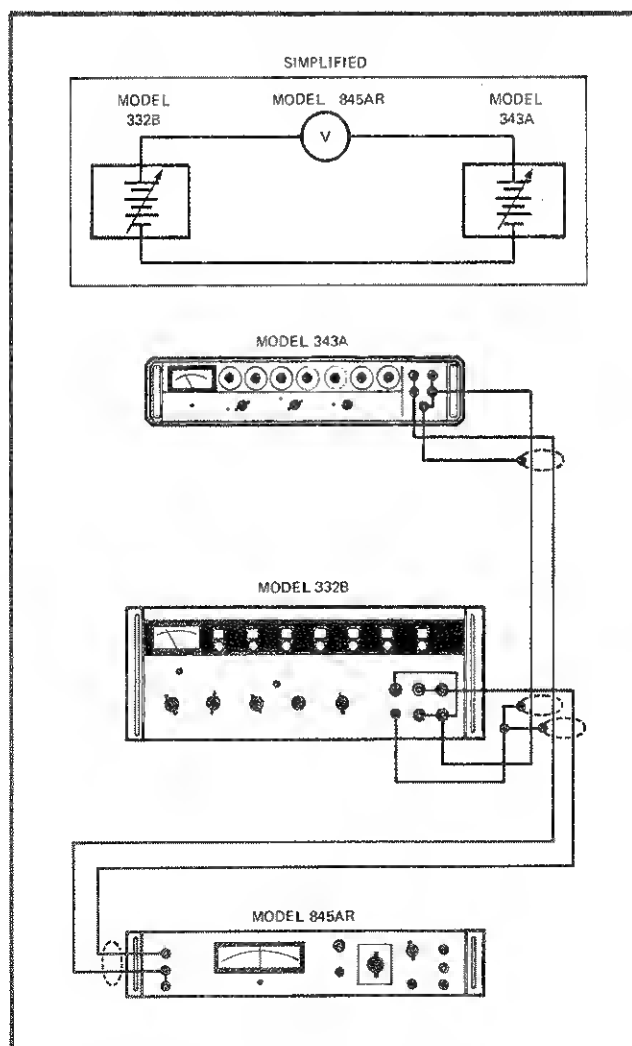

Figure 4-13. BETA STRING LINEARITY TEST SETUP.
- Connect the equipment as shown in Figure 4-13.